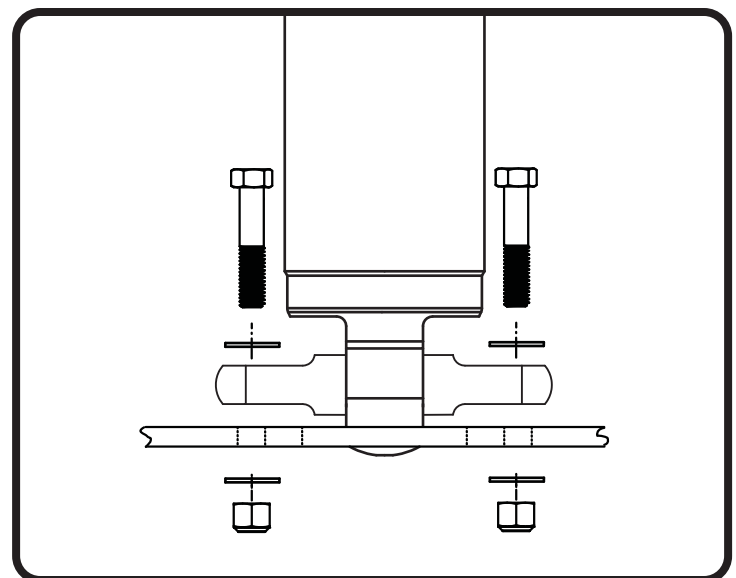

Figure 5
**7.** Raise the lower arm up to the ShockWave and attach the shock to the arm using the 5/16" x 1  $\frac{1}{4}$ " bolts, washer, and Nylok nuts supplied with the lower arms (Figure 5). Torque to **17 ftbs**.